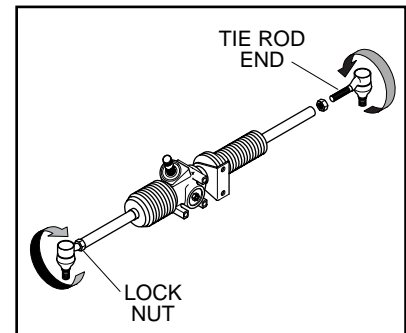

Figure 12
2. Using the note indicating the number of turns required to unscrew the tie rod ends; install the tie rod ends the same number of revolutions (Figure 12).